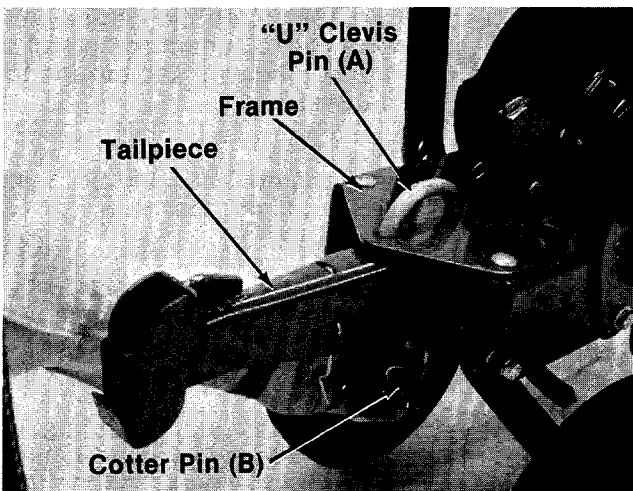

FIGURE 3.
← "U"-clevis pin (A) and cotter pin (B). See figure 3.